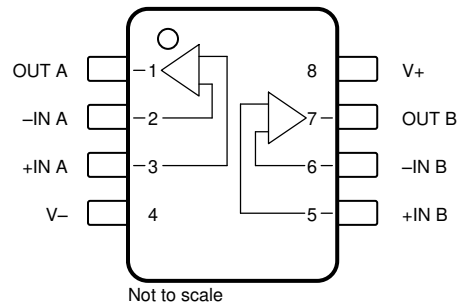

Figure 4-2. Pin Diagram (SOIC (D) | 8 Package)
4.2 SOIC (D) | 8 Package
Figure 4-2 shows the OPA2991-Q1 pin diagram for the SOIC (D) | 8 package. For a detailed description of the device pins, see the *Pin Configuration and Functions* section in the OPA2991-Q1 data sheet.